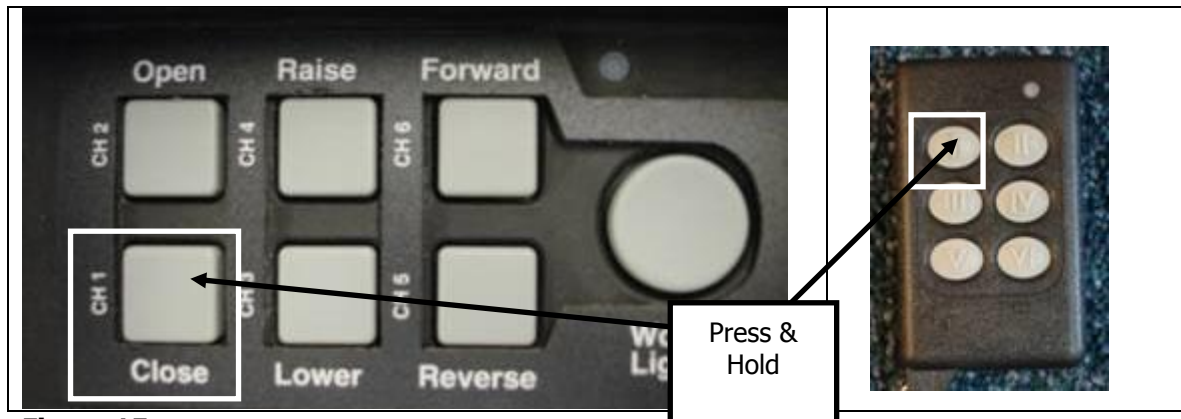

Figure 15
- 1) Loosen the tarp, uncoil several feet of tarp. To loosen the tarp press & hold button 1 on the control box or the key fob (see Fig 15).